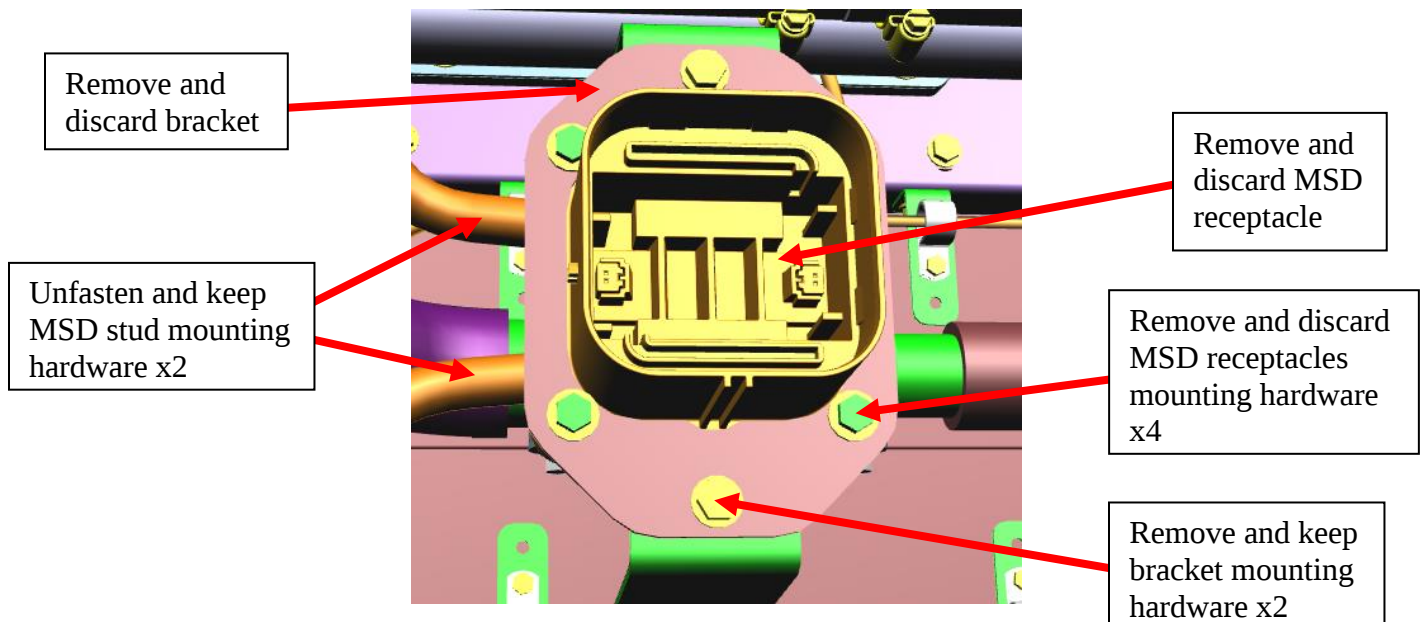

Figure 22: Rooftop ESS locations
3.5 Remove and discard rooftop MSD receptacles and brackets x5. See figure 22.